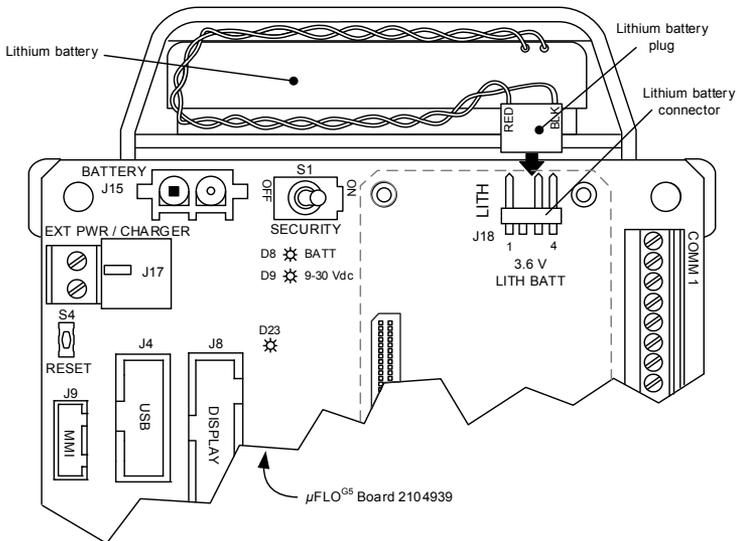

Figure 11: Lithium battery and connector
2. Plug the lithium battery cable onto the LITH onboard connector (J18) so that the red wire is making a connection to pin 1 and the black wire is making a connection to pin 4 (Figure 11).